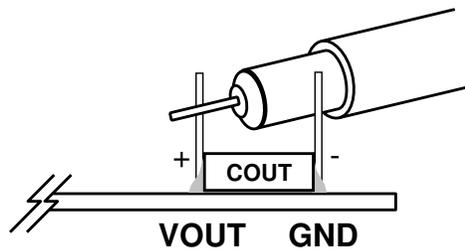

Figure 2. Measuring Output Voltage Ripple
**NOTE:** When measuring the input or output voltage ripple, care must be taken to avoid a long ground lead on the oscilloscope probe. See Figure 2 for proper scope probe technique. Short, stiff leads should be soldered to the (+) and (-) terminals of an output capacitor. The probe's ground ring needs to touch the (-) lead and the probe tip needs to touch the (+) lead.